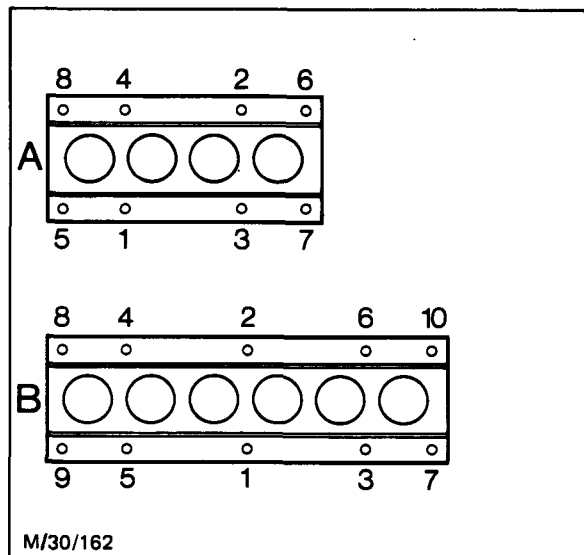

Fig. 83 - Pump Body Bolt Tightening Sequence
7. Depress the pump body and screw in the retaining bolts. Tighten them evenly and gradually to the specified torque in the sequence shown in Fig. 83.